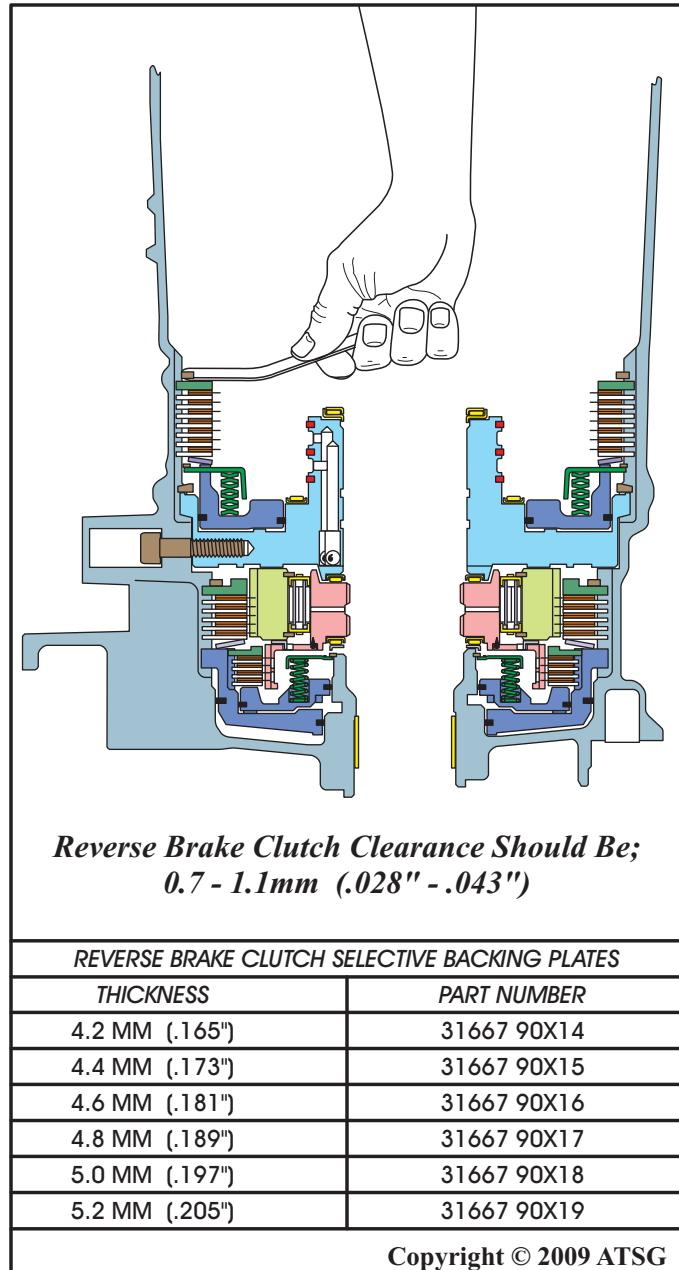

Figure 206
36. Measure reverse brake clutch clearance using a feeler gage between the backing plate and the snap ring, as shown in Figure 206.
38. Change the selective reverse brake clutch backing plate, using the chart in Figure 206 to achieve the proper clutch clearance.